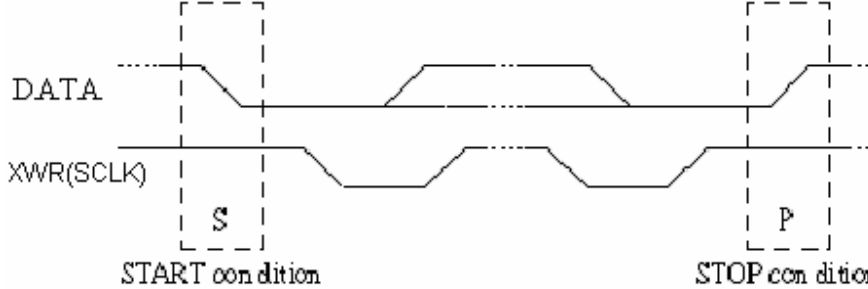

Fig 5. Definition of START and STOP conditions
Both data and clock lines remain HIGH when the bus is not busy. A HIGH-to-LOW transition of the data line, while the clock is HIGH is defined as the START condition (S). A LOW-to-HIGH transition of the data line while the clock is HIGH is defined as the STOP condition (P). The START and STOP conditions are illustrated in Fig.5